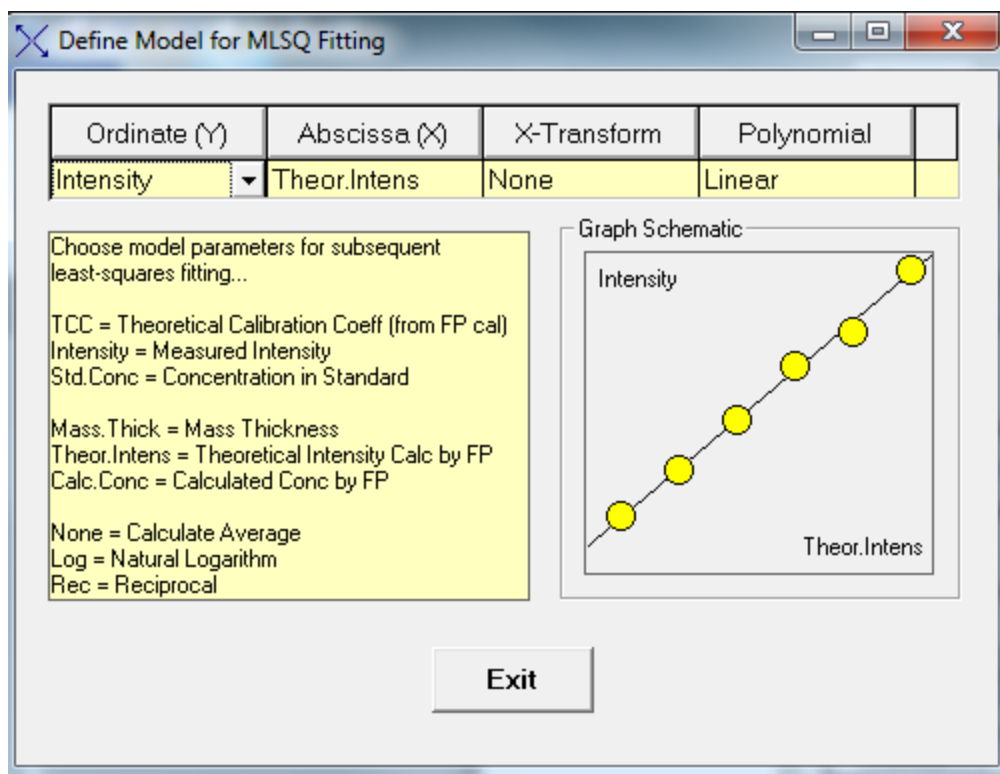

Figure 7. Define Model for MLSQ Fitting Dialog. Under the “Ordinate (Y)” column select the drop-down menu button to select the “Intensity” model.
12. Now click the “Choose Model” button in the “TFR Files for Multi-Standard XRF Calibration” dialog (Fig 8). This will bring up another dialog called, “Define Model for MLSQ Fitting” (see Fig. 6 below). Select the type of model to be used by clicking on the “Ordinate (Y)” drop-down menu button (Fig. 6). Select the “Intensity” model in the “Ordinate (Y)” column for this method (Fig. 7).